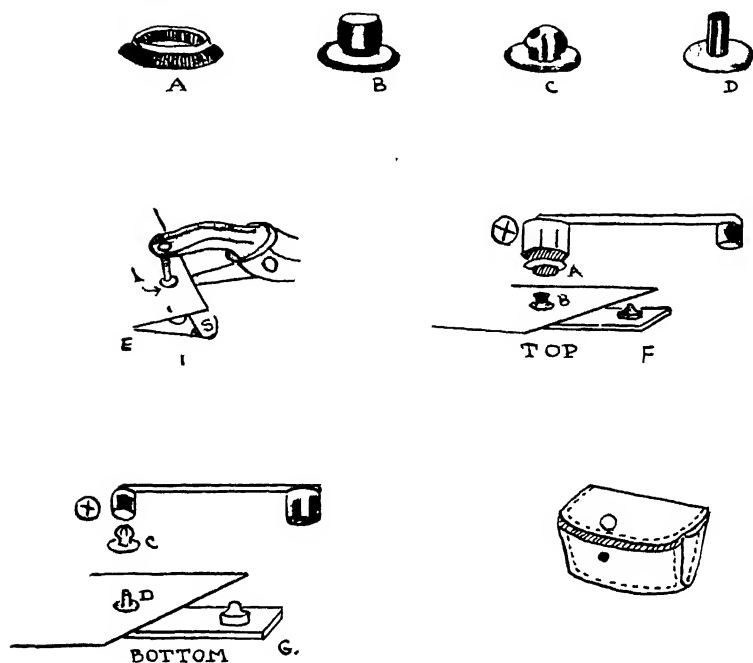

Fig. 4—Setting a Snap Button
The four parts of a snap button are (A) the cap, (B) the eyelet, (C) the spring, and (D) the post. (Fig. 4.)
Punch a large hole through the flap (the upper part of the project for (A) the eyelet, and (B) the cap. (Fig. 4.)
Punch a small hole through the under section which is to receive (C) the spring and (D) the post. (Fig. 4-E.)
Place the large protective end of the snap fastener over both pieces and strike with a wooden mallet to secure in place. (Fig. 4-F.)
Repeat this procedure, using the smaller pieces of the snap fastener and snap button. (Fig. 4-G.)